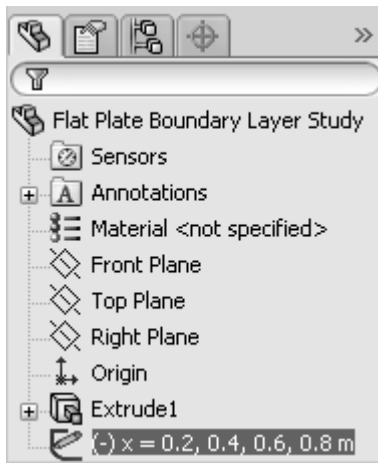

Figure 2.8 Renaming the sketch for boundary layer velocity profiles
8. Repeat step 7 three more times and add three more vertical lines to the sketch, the second line at $X = 400$ mm with a length of 40 mm, the third line at $X = 600$ mm with a length of 60 mm and the fourth line at $X = 800$ mm with a length of 80 mm. These lines will be used to plot the boundary layer velocity profiles at different streamwise positions along the flat plate. Save the SolidWorks part with the following name: **Flat Plate Boundary Layer Study**. Rename the newly created sketch in the **FeatureManager design tree**, see figure 2.8.